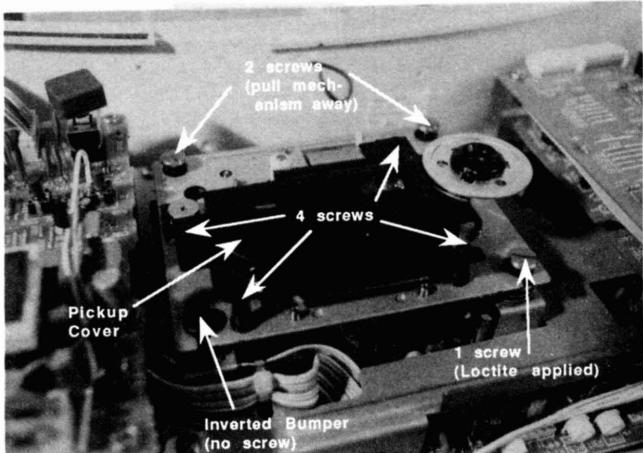

Figure 6
18. CD Mechanism Removal (Figures 6 and 7)
A. Remove 1 screw. Refer to note above. (Figure 6).
B. Pull the mechanism slowly away from 2 screws. Exercise care when sliding the mechanism out. These screws are delicate. (Figure 6).
19. CD Mechanism Replacement (Figures 6 and 7)
D. Remove the 4 screws which secure the black pickup cover. Re-install the cover on the new CD mechanism (Figure 6).
E. Remove the 2 rubber bumpers from the old mechanism and re-install on the new mechanism. One bumper is **inverted** (Figure 6).
20. CD Mechanism Installation (Figure 6)
- G. Slide the mechanism into place under the 2 intact screws (Figure 6).**
- H. Apply Loctite 290 to the threads of the 1 remaining screw. After waiting an appropriate period (see Loctite application instructions for duration), re-install the screw (Figure 6).**